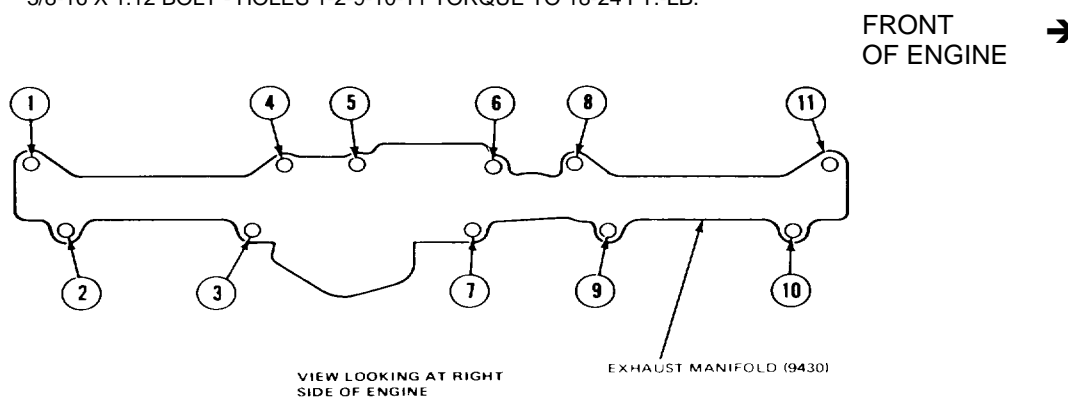

FIG 39. View Looking at Right Side of Engine
2. Position the exhaust manifold on the cylinder head and install the attaching bolts and tab washers. Torque the bolts and studs in sequence shown in Figure 39. Refer to specifications.
9. Using a magnet, remove the valve lifters and keep them in order so that they can be installed in their original locations (Figure 39). If the valve lifters are stuck in the bores by excessive varnish, etc., it may be necessary to use a claw-type tool to remove the lifters.